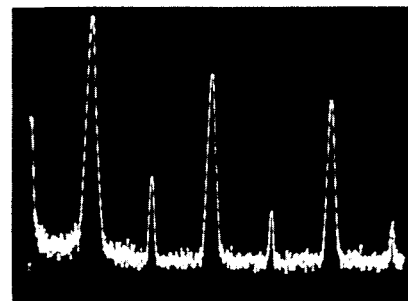

Figure 5-3. Triangle Adjustment: HF
8.3 Adjust A15R37 for minimum 2nd harmonic. (Figure 5-3). Then turnCW to verify level is 50 dB below fundamental.